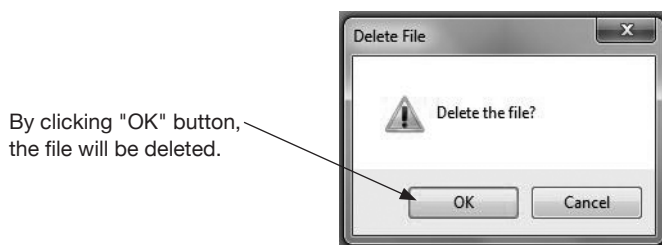

Fig. 3-88
- (4) After the click, the selected file will be opened. The message box (Fig. 3-88) will be displayed. Click "OK" button to delete the file and click "Cancel" button not to delete the file. By clicking "OK" button, the file will be deleted.